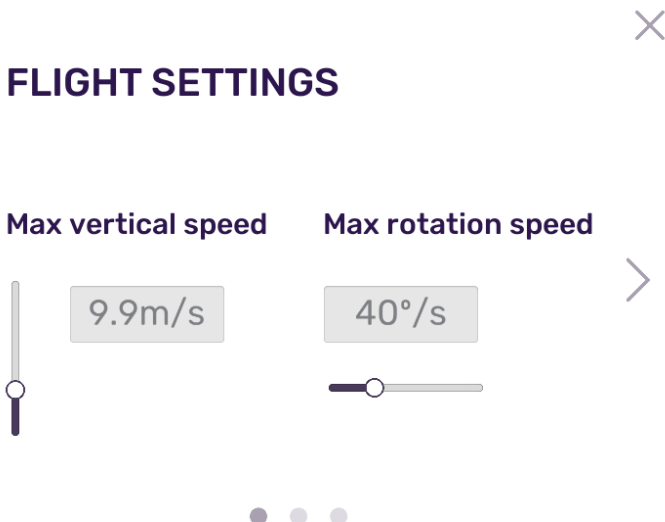

Figure 6. Flight settings windows
1. **Flight settings** (see Figure 6): This shows the restrictions on the drone manoeuvres while in automatic flight mode. These restrictions control the maximum vertical speed in metres per second and the maximum angular speed in degrees per second. Note that when the drone is flown in manual mode, these restrictions do not apply.